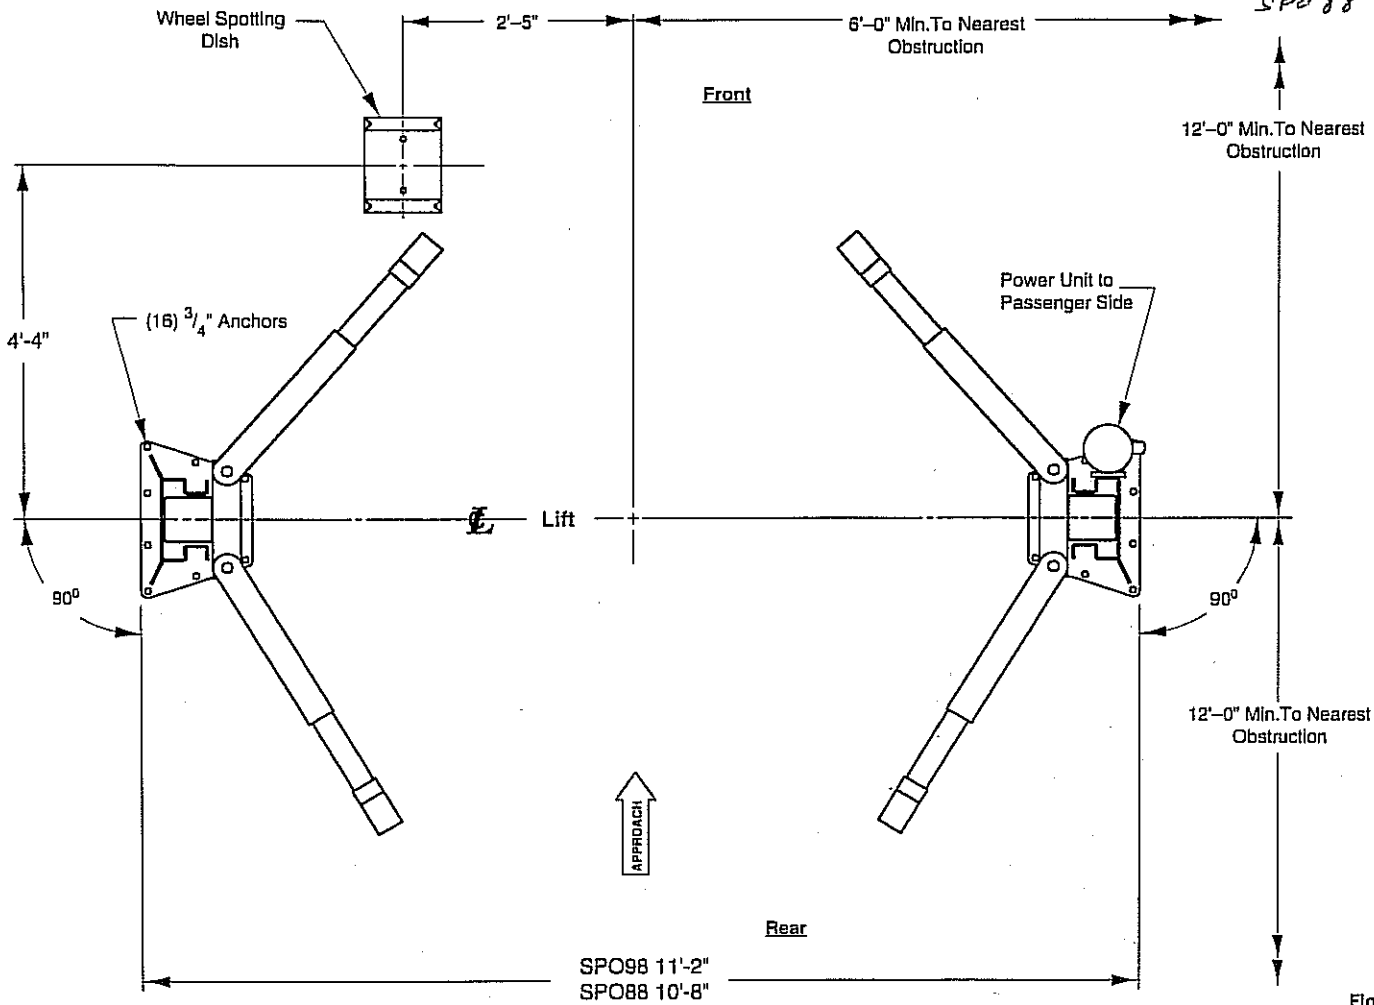

Fig. 1
- Lift Location:** Use architects plan when available to locate lift. Fig. 1. shows dimensions of a typical bay layout.
- Lift Setting:** Position columns in bay using dimensions shown in Fig. 1. Place column with power unit mounting bracket on vehicle passenger side of lift. Both column base plate backs must be square on center line of lift. Manually raise carriage to first latch position.
Note: Arrows are located on each base plate to indicate center line of lift. Drill (16) 3/4" holes 4 1/2" deep in concrete floor using holes at base of column as guide, Fig. 1 & 2. Lift and anchors are designed for use on concrete floor with a 5 1/2" minimum thickness. Floor shall sustain minimum 3000 lbs. anchor load.